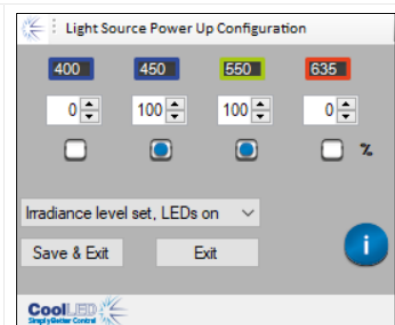

Figure 32
3. Select the Light Source power-up state using the dropdown box (see Figure 30 to Figure 32).